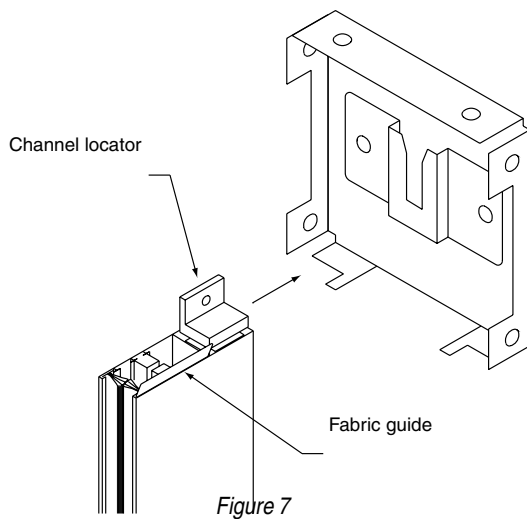

Figure 7
- A. Install channel locator and fabric retainer in the top of each side channel then slide into place (see Fig. 7).